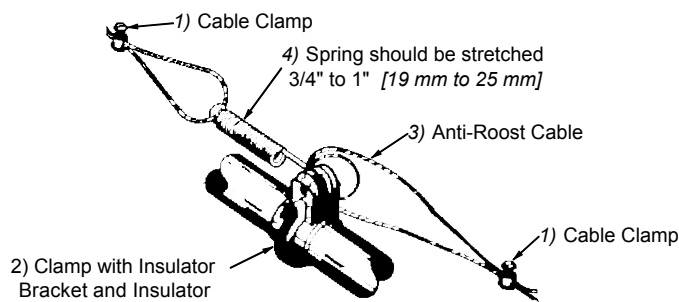

Figure 83. Anti-Roost Cable Mid-Line Connection
4. Attach a spring in the center groove at the second anti-roost bracket and cut the cable at this point. See **Figure 83**.
5. Thread the ends of the cable through the end of the spring. Pull the cable tight so that there is 3/4" to 1" [20 to 25 mm] of stretch in the spring. Clamp the cable to form a loop and cut off any excess. See **Figure 83**.
6. Attach the cable to the insulator. For best results, make a double loop around the anti-roost insulator in the center groove of the insulator and fasten with a 1/16" cable clamp as shown in **Figure 83**.